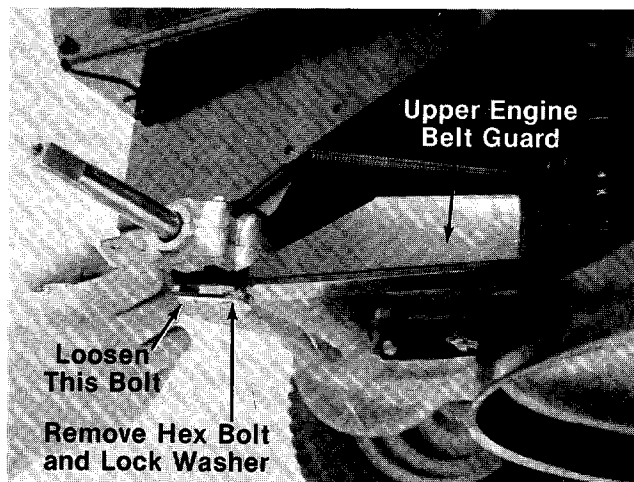

FIGURE 21.
4. Remove one hex bolt and lock washer at the front of upper engine belt guard. A 7/16" wrench is required. See figure 21.
5. Loosen (**Do Not** remove) the second bolt. See figure 21.